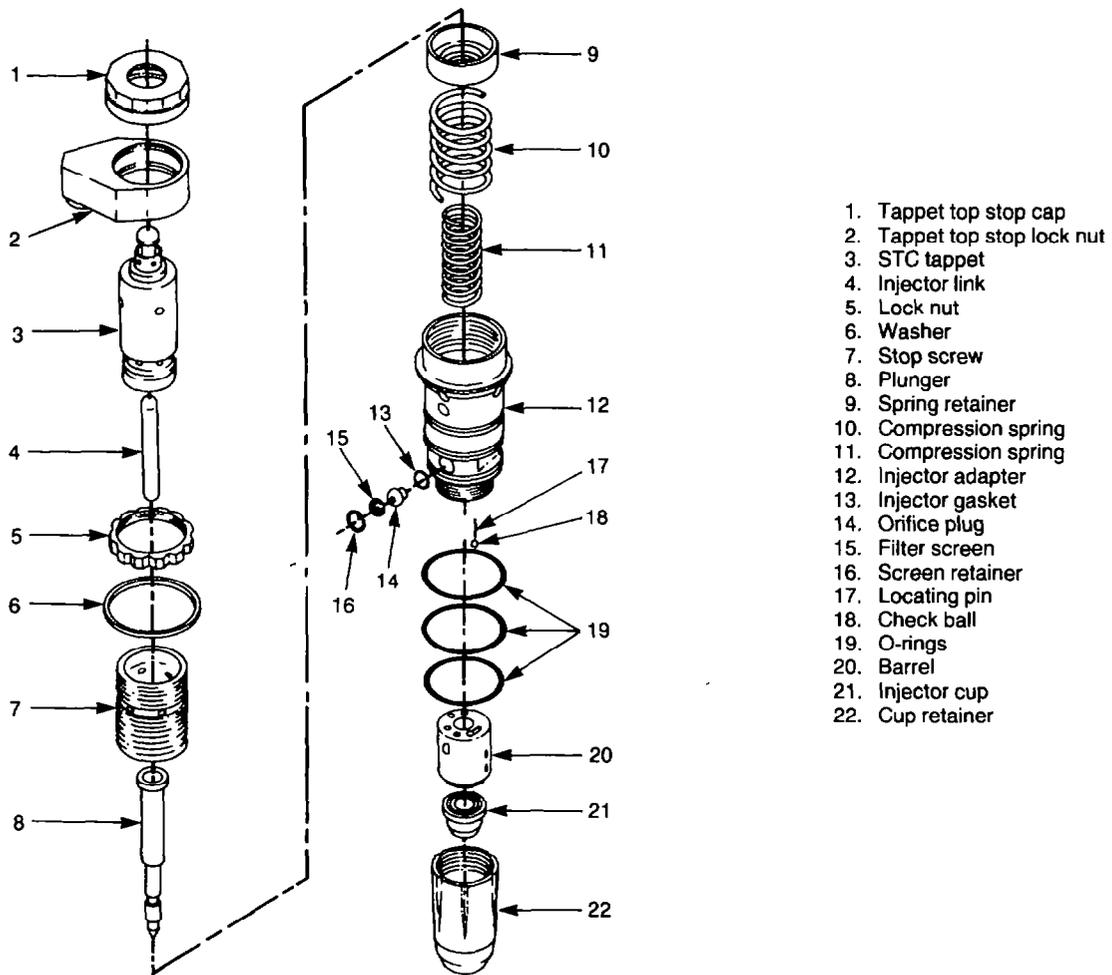

Figure 100 — Injector — Exploded View
- b. Install the check ball (see Fig. 100 item 18) into the barrel (item 20), then using clean calibration fluid 3375364 lubricate the check ball and seat.
- c. Hold the barrel (item 20) with the check ball (item 18) uppermost, then install the injector adapter (item 12) ensuring that the locating pins (item 17) in the adapter correctly locate into the barrel.
- d. Invert the adapter and barrel (items 12 and 20), then using clean calibration fluid lubricate the injector cup to barrel mating surface and position the injector cup (item 21) on the barrel (item 20).
- e. Lubricate the thread of the cup retainer (item 22) and the injector cup (item 21) with clean calibration fluid, then install the cup retainer onto the injector adapter (item 12) finger tight.